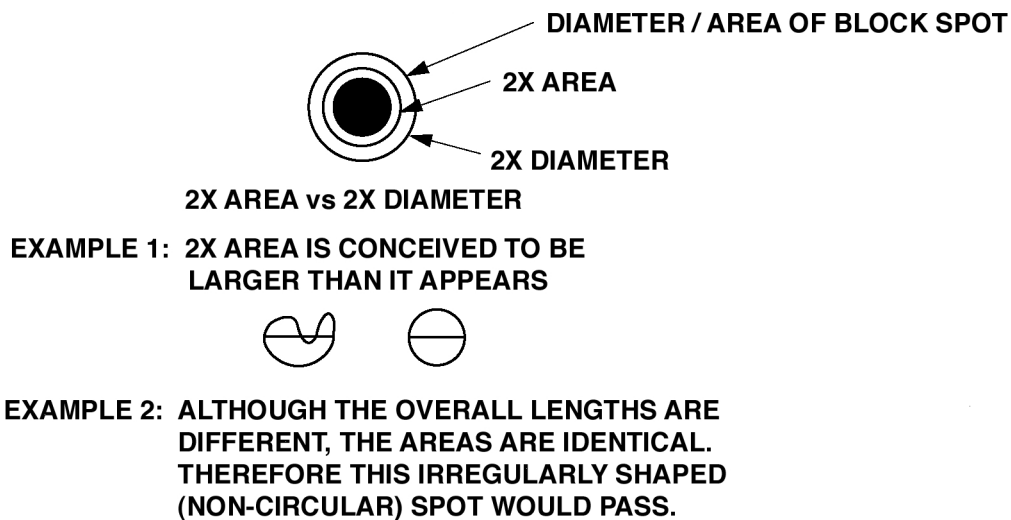

Figure 3-8. Black Spot Evaluation.
(2) The image intensifier fails if the black spot (circular) is larger than the maximum spot size indicated on the chart for the ring in which the spot (circular) is located, or if the number of spots exceeds the number of spots allowed for that ring.
(3) The image intensifier fails if the maintenance person determines, by comparison, that the area of the non-circular spot is larger than the area of the largest circular spot designated in that ring. This will be a subjective evaluation so remember that these spots were evaluated before Government acceptance at the contractor's plant and passed. Judging the area is difficult. See Examples 1 and 2 of Figure 3-8. Do not reject an image intensifier for an irregularly shaped spot by its diameter alone.
(4) Consider two spots and the distance between them as one spot anytime that this distance between the two spots is less than the diameter of either spot. The image intensifier fails if this total dimension (diameter) is greater than the allowable spot size diameter for the ring in which the spots are located.